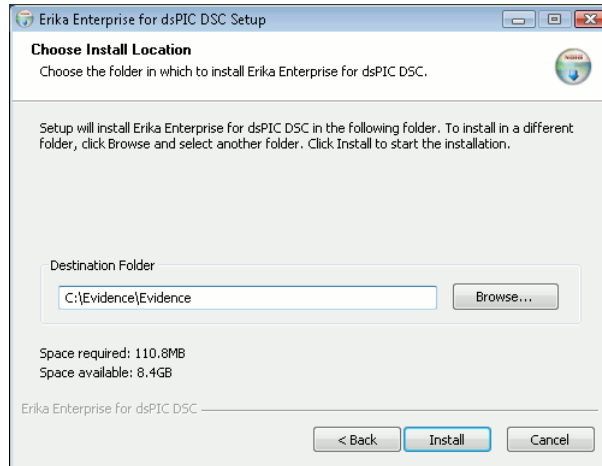

Figure 3.2: This screenshot shows the preferred destination dir for installing Erika Enterprise.
6. The installer will ask for a destination directory. If possible, please use `c:/Evidence/Evidence` (see Figure 3.2).